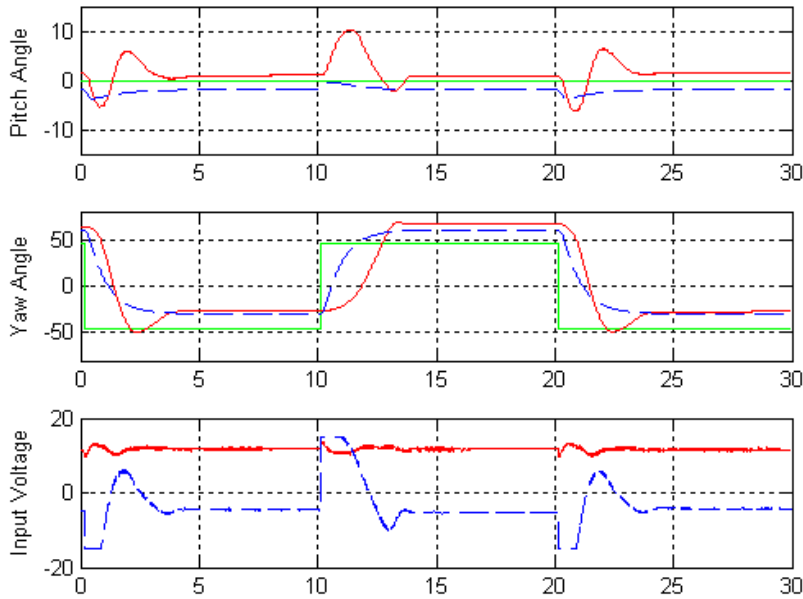

Figure 37: Closed-loop LQR response under yaw reference step.
16. Figure 37 depicts the typical measured and simulated pitch and yaw response given a desired step yaw angle. There is a steady-state error in the yaw angle.